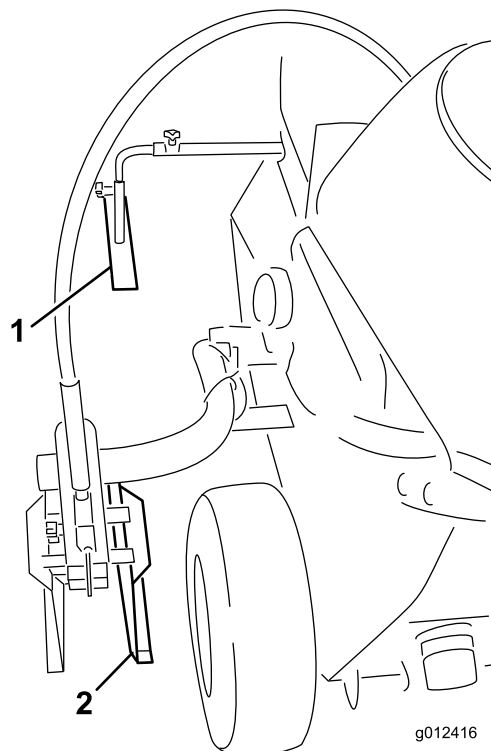

Figure 28
The guide (Figure 28) allows the operator to stay aligned with a string line or the existing painted line.
1. Loosen the screw securing the line marker (Figure 28) to the mounting tube.